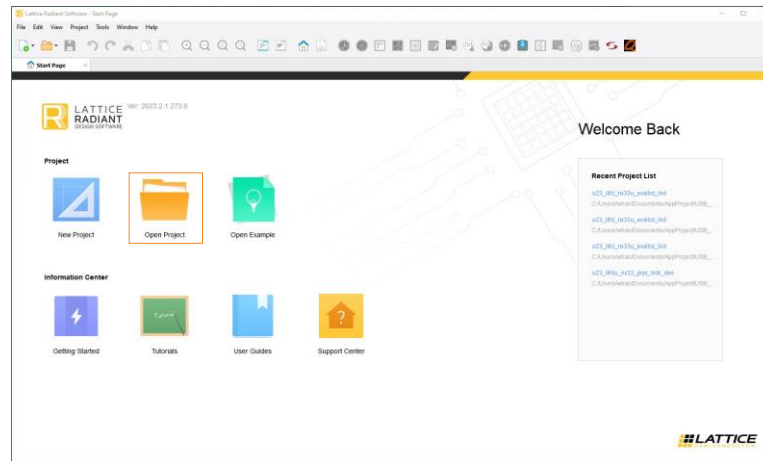

Figure 5.12. Lattice Radiant Software
1. To create the FPGA bitstream file, open the Lattice Radiant software. Then, click on **Open Project** icon, as shown in Figure 5.12.